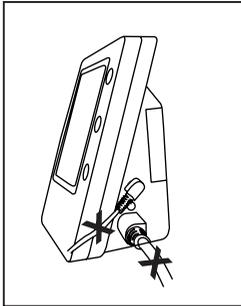

Fig.3
1) Disconnect the Measuring wire or test handle.(Fig.3)